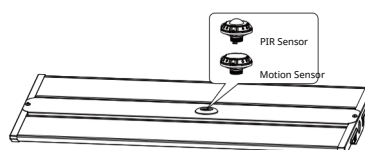

Figure 13
Step 2. Twist and lock the DC sensor onto the base to ensure it functions properly, then use the remote control to adjust the working mode as required. [Figure 13]